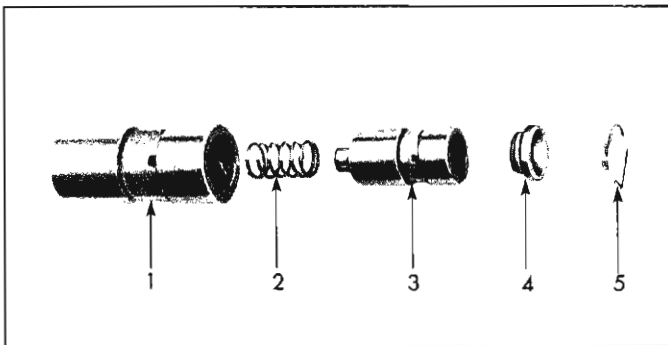

Fig. 6—Valve Lifter, Exploded View
2. Remove push rod seat, plunger and ball check valve assembly and plunger lifter spring. Figure 6 shows a layout of the parts.